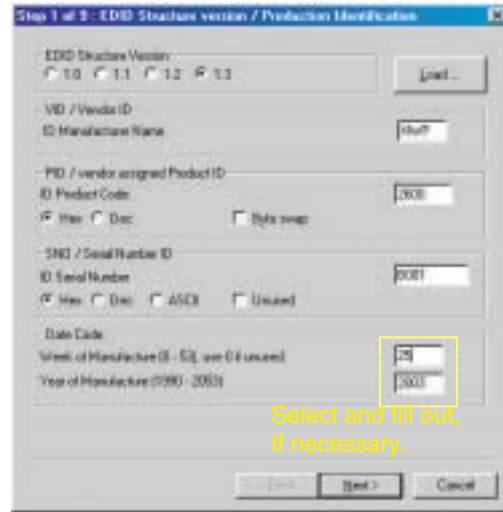

Fig. 15
- Click (new function) icon from the tool bar, bring up Step 1 of 9 as shown in Fig. 15. EDID45 DDC application provides the function selection and text change (select & fill out) from Step 1 to Step 9.